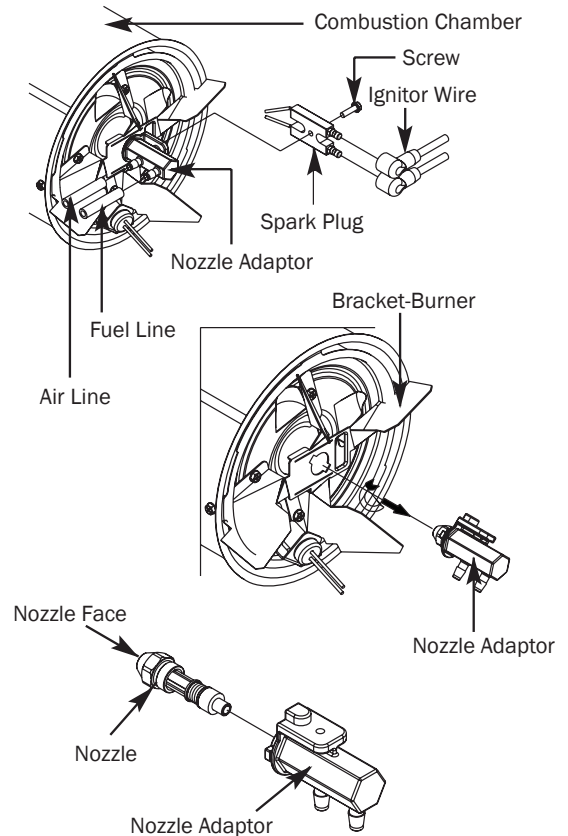

Figure 17 – Nozzle Replacement CP210FK
- Turn nozzle adaptor 1/8 turn (45°) to counter clock wise and pull toward motor to remove. (See Figure 17)